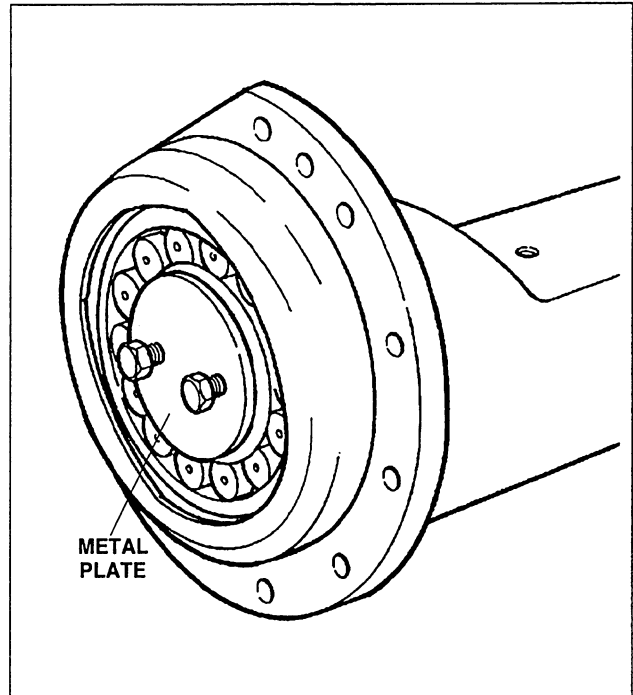
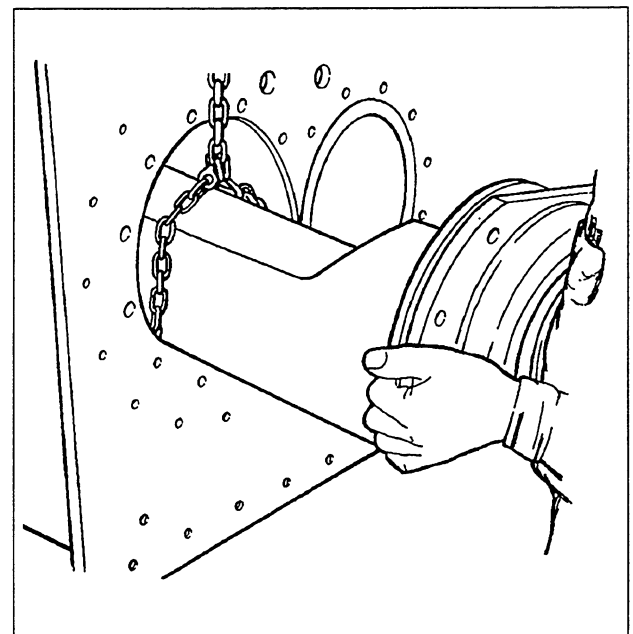

Figure 4-9. Metal Plate
Figure 4-10. Pushing Shaft into Housing Bore
removed from the vibrator housing. If necessary, install spacers between metal plate and bearing housing. See Figure 4-9. Failure to follow these instructions can result in serious personal injury.
Before attempting to install shaft (14) as described in Step 4, place a metal plate (Figure 4-9) on the end of shaft (14) and bolt it into the tapped holes on the end of the shaft with two 5/8 x 1-1/2" capscrews. This will prevent the bearing housing from falling off the shaft if it tilts while being moved to the vibrator housing during installation. If necessary, install spacers between the metal plate and the bearing housing. Failure to follow these instructions can result in serious personal injury.
4. Attach a sling at the center-of-gravity of shaft (14). Raise the shaft slightly to assure it is balanced in the sling.
6. Two people are required to install shaft (14) in vibrator housing (20). Proceed as follows:
- A. With the shaft suspended in the sling, insert the shaft through the **gear end** of the vibrator housing bore (see Figure 4-10).
- B. Rest the shaft on the bore of the vibrator housing (20) and re-attach the sling to the shaft through the cover opening.
- C. Guide the shaft into the bore of bearing (9) on the **sheave end** of housing (20). If necessary, tap bearing (9) with a soft mallet to align the bore with the shaft end.